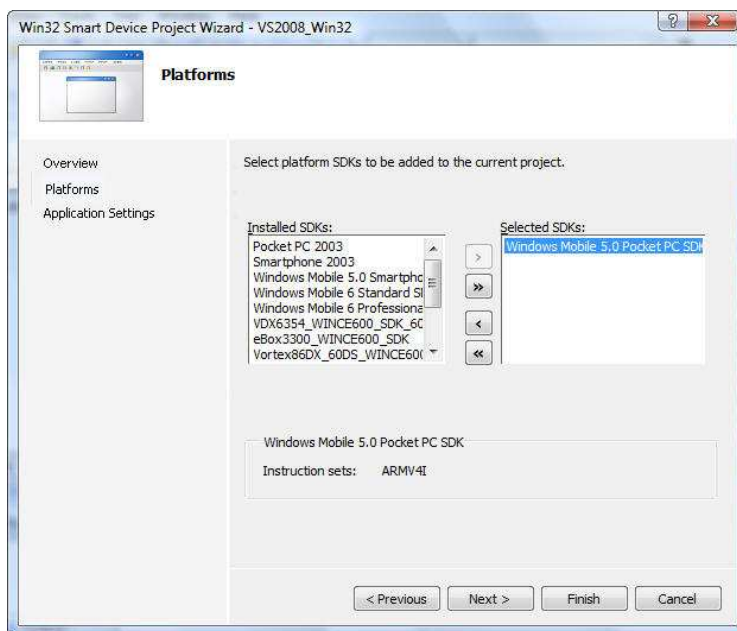

Fig. N03- Platform and SDK selection
- Click on the Next button to bring up the Platforms selection step, as shown in Figure N03.